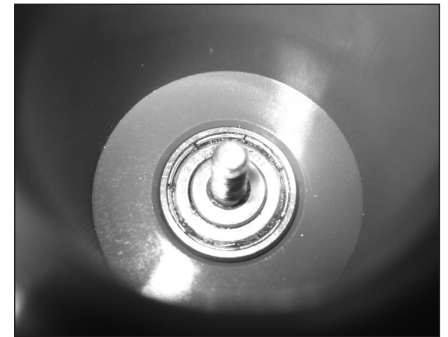

Figure 7
2. Reinstall the half coupling, bearing and shaft (items 2, 3 & 4 indicated on the Exploded View on pg. 8-9) as an assembly into the head. If the bearing needs to be replaced it is recommended to purchase a new shaft, bearing and half coupling assembly because the EF Series shaft can be damaged when removing or installing the bearing.
3. **Shaft Installation** - Slide the shaft down through the seal until the bearing engages the bearing bore in the head. Use any size dowel under 1" (25.4 mm) in diameter and press the half coupling, bearing and shaft into place using an arbor press or by lightly tapping with a soft mallet. Note: Do not use excessive force. Unthread the half coupling counter clockwise (right hand thread) to verify that the bearing is seated properly. See figure 7. Reinstall the half coupling.